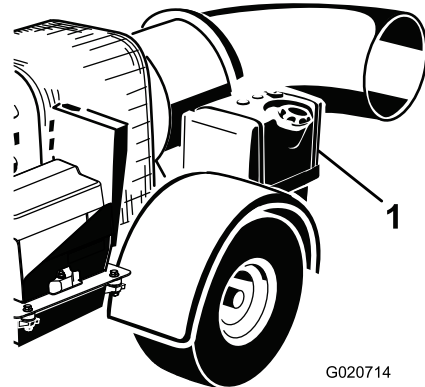

Figure 13
2. Clean the area around the fuel tank cap and remove the cap (Figure 13).